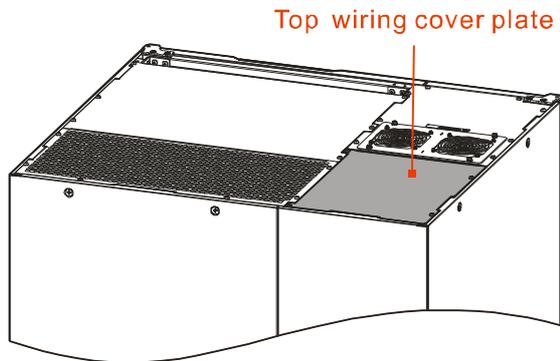

Figure3-18 Top wiring cover plate position of BM33300, BM33400
Step 2 Unscrew the fasten bolts of top wiring cover plate (as shown in Figure3-18) by screwdriver and take them down.